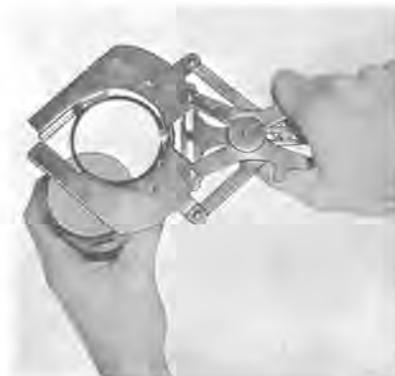

Figure 9-22
- a. Install the piston rings on each piston. Spread each ring with a ring expander just enough to slip it over the head of the piston and into place (see Figure 9-22). Be sure that the rings fit freely in the piston ring grooves.